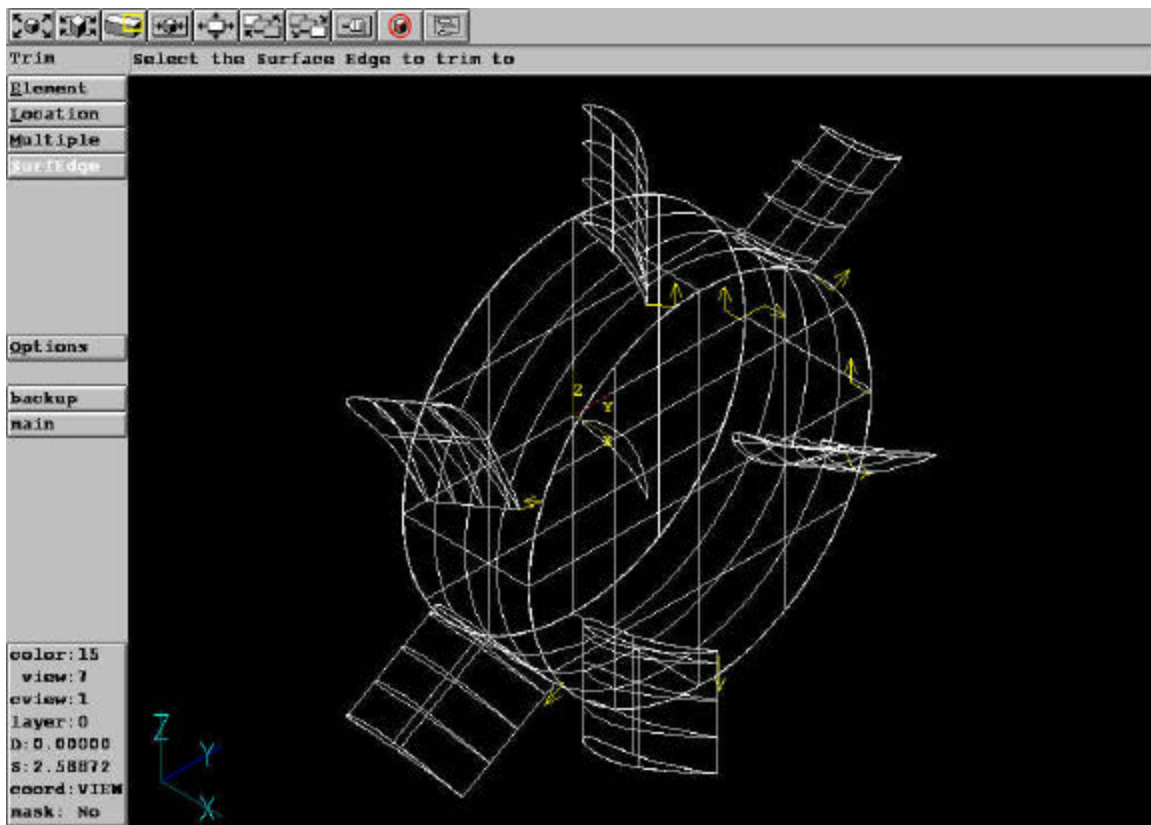

Figure 39: Trimmed blades on the turbine
- 5.) Click on the outer edge of the hub. SurfCAM will automatically figure the intersection of the two surfaces, and trim the inner section of the blade off. Repeat this process for all of the turbine blades. Figure 39 shows the final result of the trimming.